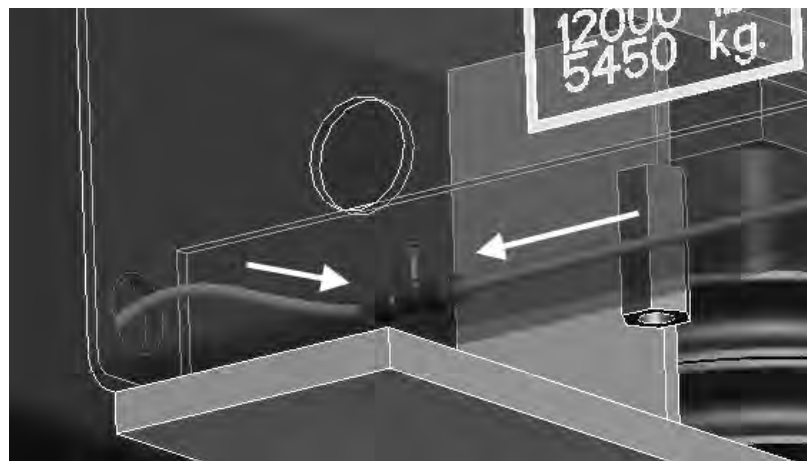

Figure 13: Air line Connection - Rear to Front
19. Using the a tee fitting, connect the air lines as shown in **Figure 13**.